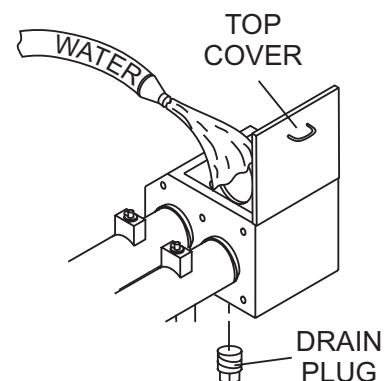

Figure 51. Cleaning the Lubrication Box
1. Remove the top cover and the drain plug (Figure 51) located at the bottom of the box and fully drain the inside of the box.
3. While stroking, spray water inside of the box to thoroughly clean out all contamination (Figure 51).